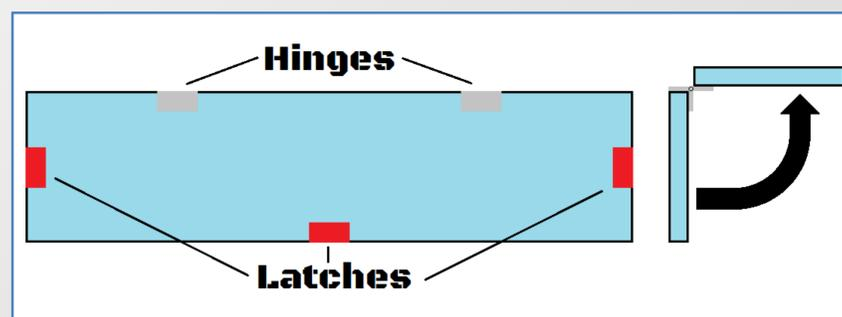

Figure 3. Setup (Left) and Movement (Right) Diagrams of Polycarbonate Window/Door
A pallet rack was altered to become the frame of the arena, where a steel-covered wooden floor and wooden ceiling snugly fit. Polycarbonate sheets function as both windows and doors (Fig. 3) and various electronics help run the fights
- Each has 2 industrial hinges along the top with 3 latches on the other sides (Fig. 3)